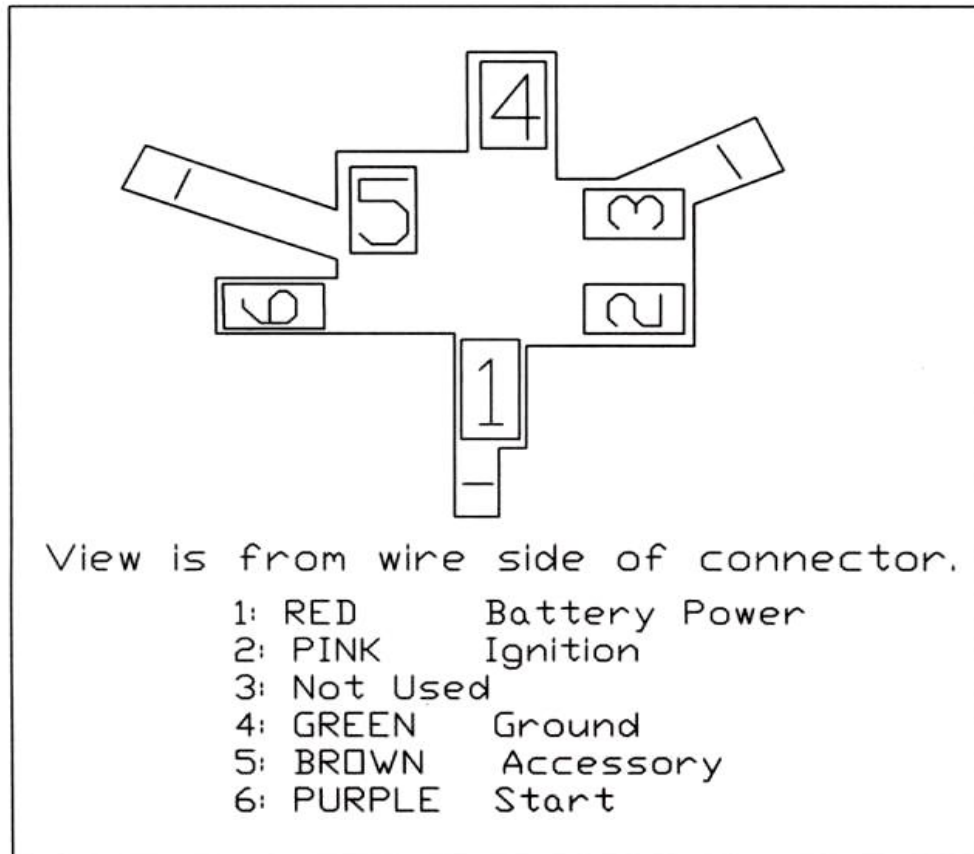

Figure 8.25 Ignition Switch Connector
- 8.5.16** IGNITION SWITCH SECTION, these wires have been pre-terminated with original type terminals. Refer to **Figure 8.25** for installation. YOU MUST USE YOUR OLD CONNECTOR.